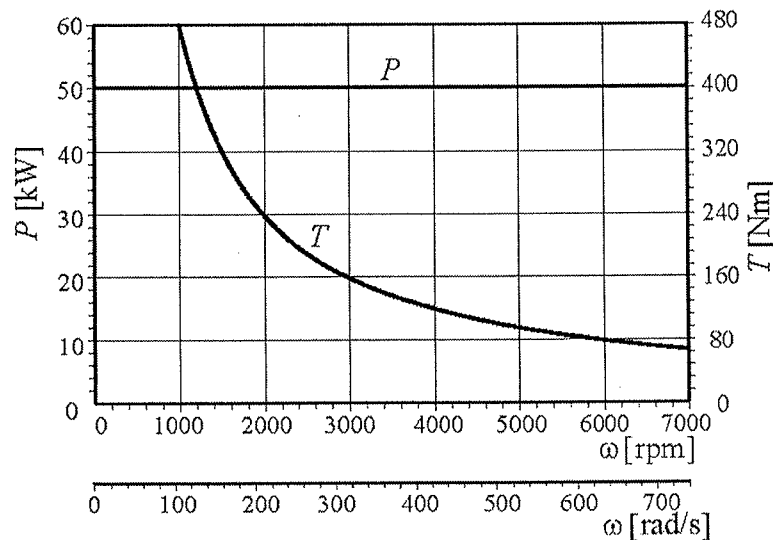

Figure Q1: Hypothetical power (P) and torque (T) for a Vehicle
- I. Figure Q1 shows the hypothetical power (P) and torque (T) characteristics of a motor vehicle engine plotted against engine speed (ω).
- a) With reference to Figure Q1, briefly explain why constant power output across all engine speeds is desirable for a vehicle 3 marks
- b) With reference to Figure Q1, explain why a real internal combustion engine cannot maintain constant power across all engine speeds 3 marks